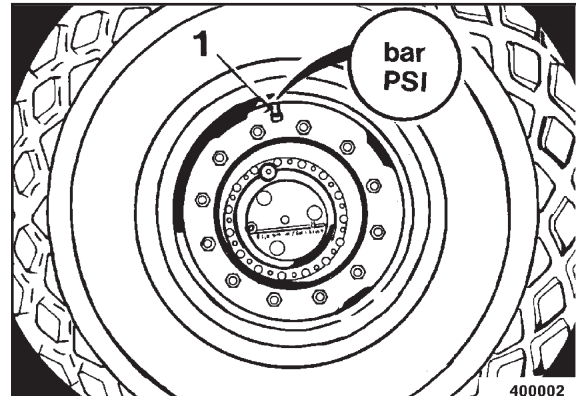

Fig. 101
- Check the tire pressure with a pressure gauge and the tire inflation valve 1 (Fig. 101) in top position.